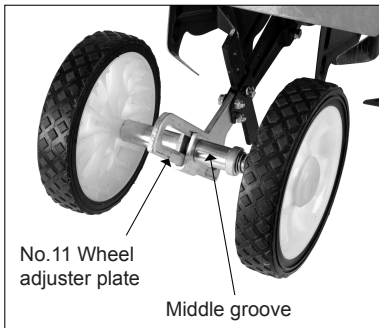
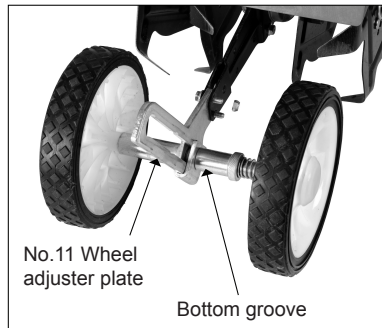

Fig.6
Fig.7
b) When not working, the wheels need putting in the middle or the bottom groove (depend on operators height). **Fig 6 & Fig 7**